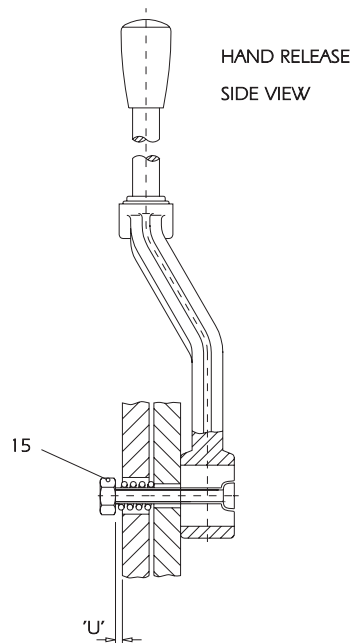

FIGURE 6
- 3 At the same time as 2, check that the rotor (3) has not worn below the minimum thickness (see table 1)
- 4 If the brake is fitted with a hand release, check the hand release air gap 'U' (Fig 6, and table 1). This is a minimum figure, do not allow smaller settings. To reset this gap tighten the hexagonal hand release nuts (15).